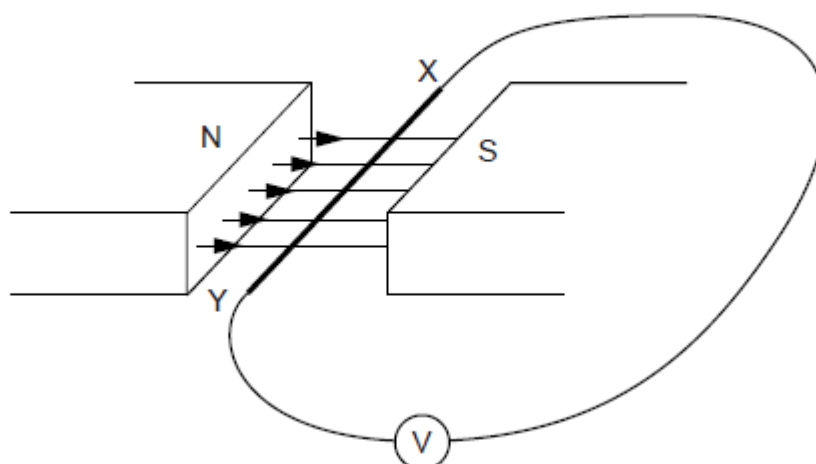

Fig. 9.1
- 9 Fig. 9.1 shows a thin, straight rod XY placed in the magnetic field between the poles of a magnet. The wires from the ends of XY are connected to a centre-zero voltmeter.